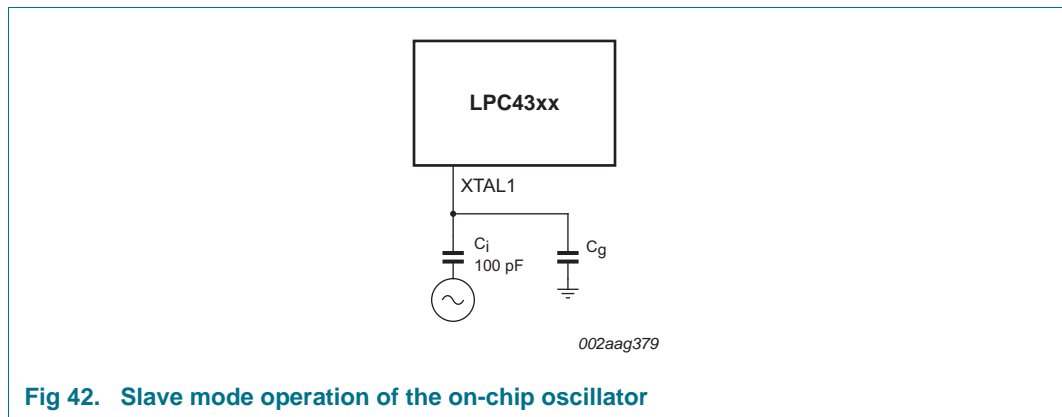

Fig 42. Slave mode operation of the on-chip oscillator
- In slave mode, couple the input clock signal with a capacitor of 100 pF (C_C in Figure 42), with an amplitude of at least 200 mV (RMS). The XTAL2 pin in this configuration can be left unconnected.
An external clock can be connected to RTCX1 if RTCX2 is left open. The recommended amplitude of the clock signal is $V_{i(RMS)} = 100$ mV to 200 mV with a coupling capacitance of 5 pF to 10 pF. $V_{i(RMS)}$ must be lower than 450 mV. See Figure 42 for a similar slave-mode set-up that uses the crystal oscillator.